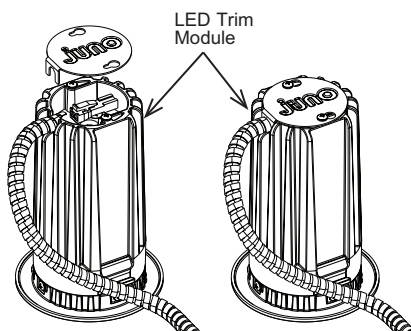

Figure 4
Step 6. Loosen 2 screws and remove top cover from LED trim module. Plug in connector. **DO NOT ALLOW LED TRIM MODULE TO HANG FROM THIS CONNECTION** (Fig. 4).